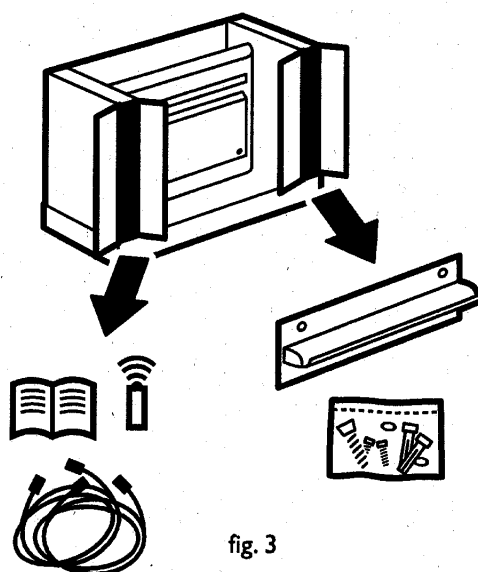

fig. 3
- ❹ Open the left and right side boxes in which you will find the supplied wall mounting bracket, leveling standoffs, bolts, washers, plastic anchors and screws in one box and the remote control, cables and the instructions for use in the other. (fig. 3)
- ❺ Remove contents.